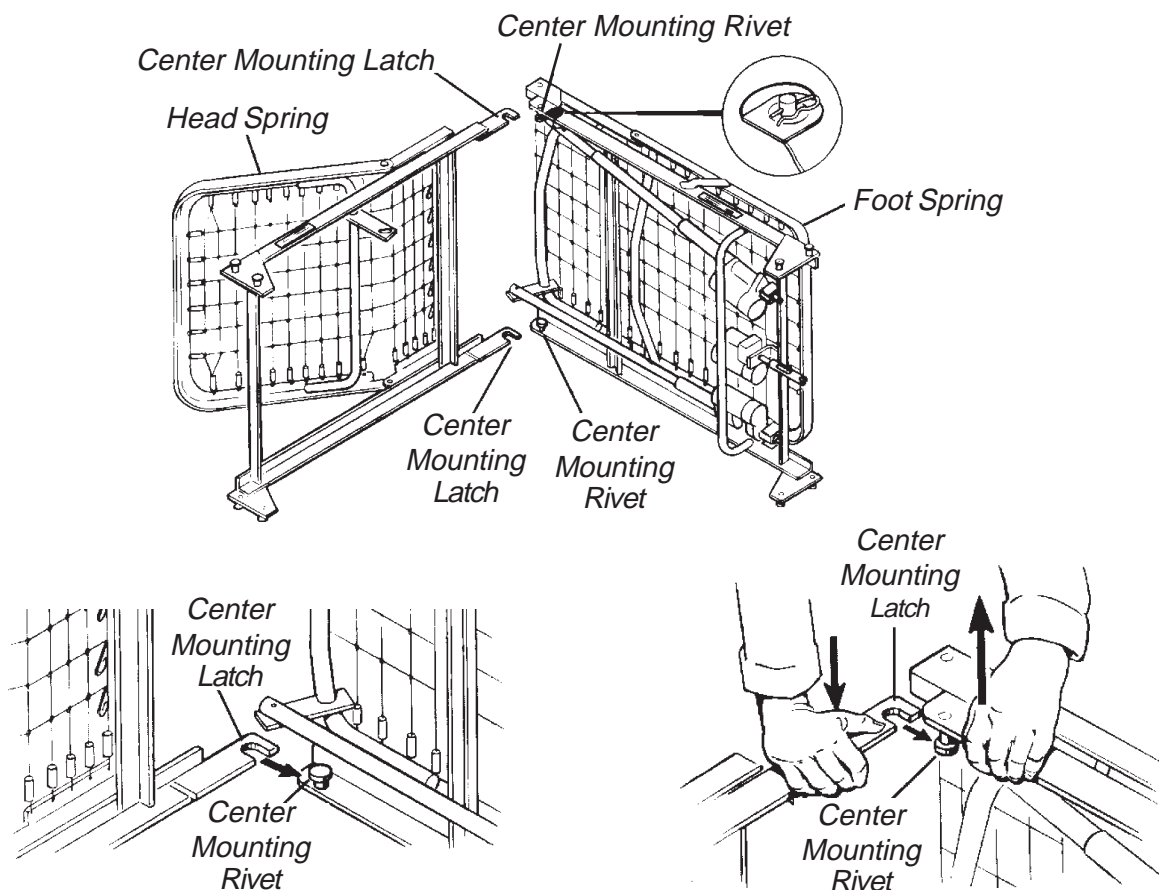

FIGURE 1 - CONNECTING THE HEAD/FOOT SECTIONS - ALL SEMI/FULL ELECTRIC AND MANUAL BEDS EXCEPT THE BARIATRIC BED
**All Semi/Full Electric and Manual Beds EXCEPT the Bariatric Bed (FIGURE 1)**